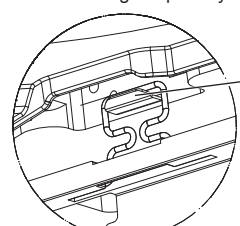

Fig. 5-6
- After tightening the screw, confirm that the two grille hooks (Fig. 5-6) are latched onto the hooks on the main unit.